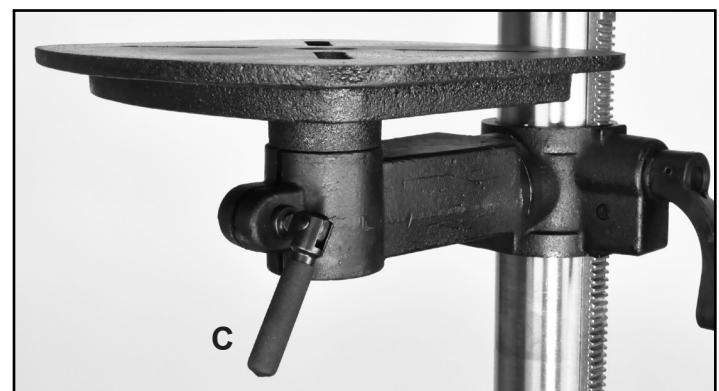

FIG. 14
4. *TO ROTATE THE TABLE* left or right, loosen the Locking Handle (#9) that is positioned directly below the table. FIG. 14, C.